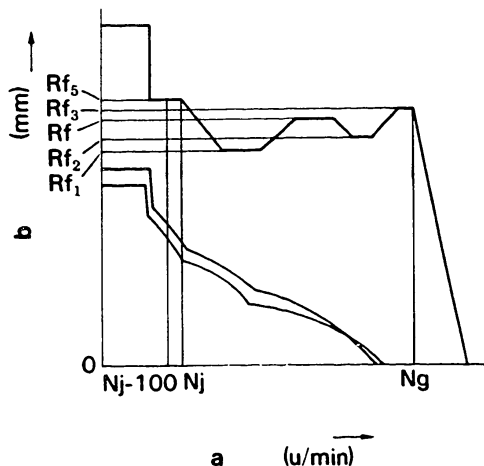

Fig. 155 Checking the torque control stroke
- 2) Decrease the pump speed to  $N_j$  minus approximately 100 rpm, then increase it to  $N_g$  rpm to ensure that the torque cam stroke is within the specified range. If the torque cam stroke is not as specified, readjust the full-load setting bolt and torque cam. If this adjustment cannot be performed to obtain the specified control rack position, replace the torque cam. (Fig. 155)